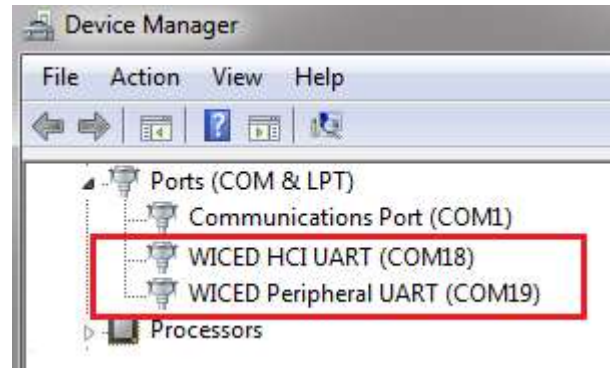

Figure 2-2. Device Manager COM Ports
**Note:** In Figure 2-2, the Device Manager identifies the new WICED evaluation board USB serial COM ports as WICED HCI UART and WICED Peripheral UART. Assigned port numbers vary among systems.